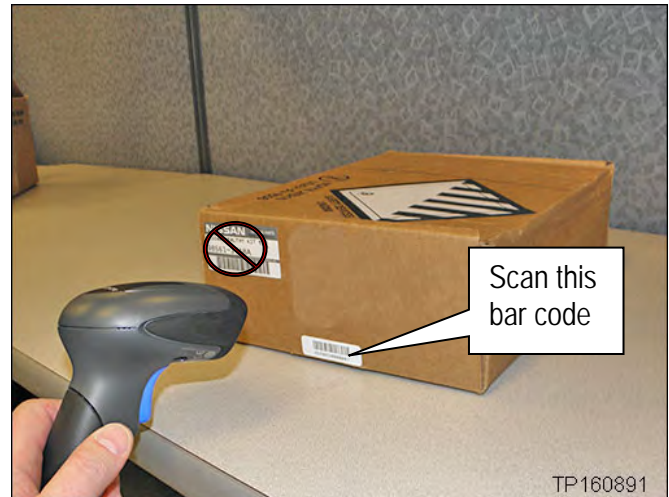

Figure 6
6. Use the quick scan tool to scan the bar code (serial number) on the side of the box of the new inflator (Figures 6 and 7).